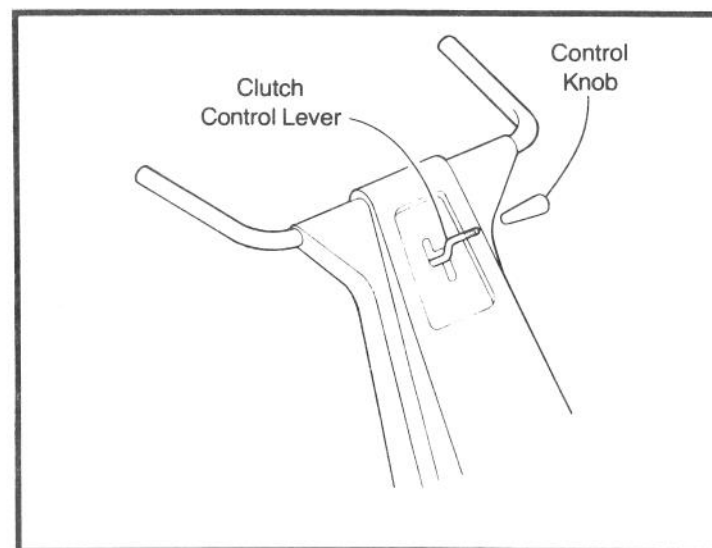

FIGURE 3
4. Turn the control knob* onto the clutch control lever, Fig. 3.